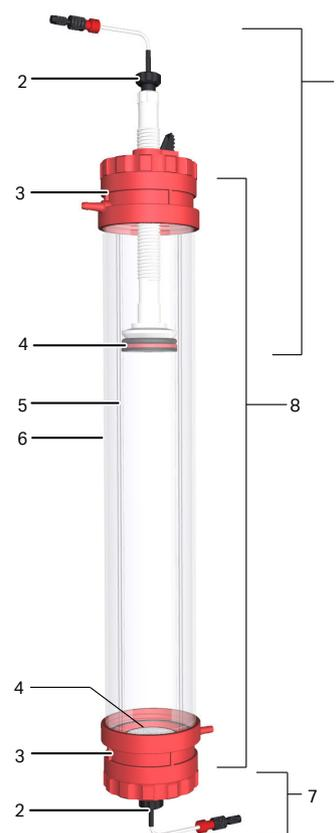

Fig 1. Main parts of an XK column.
- 3 Screw the bottom piece (7) into the column end piece (3) (Fig. 1, on page 1).